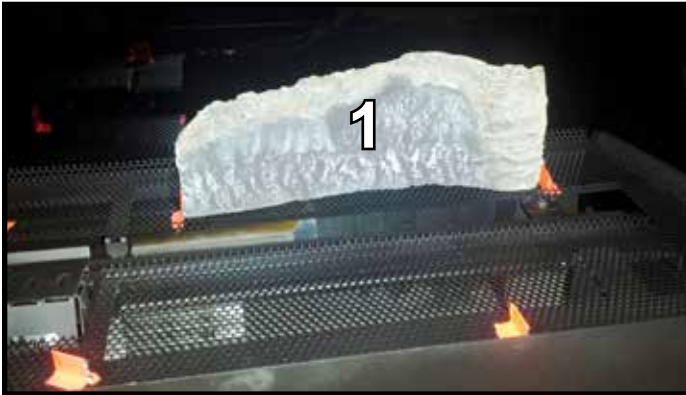

Figure 6. Log #1 (2111-700)
9. Install right rear log #1. Locate log between two locating tabs. Ensure log fits tightly between the two locating tabs. See Figure 6.